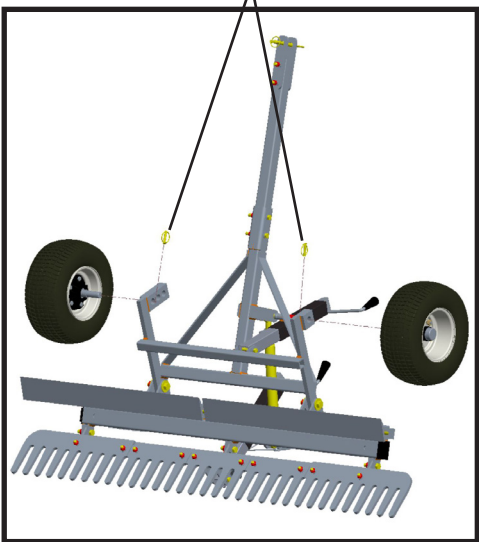

Fig 8.
10. Replace both tires and hub/axle assemblies back into Wheel Axle assembly wheel block holes and secure both Lynch Pins back into each wheel axle. (Fig 8).